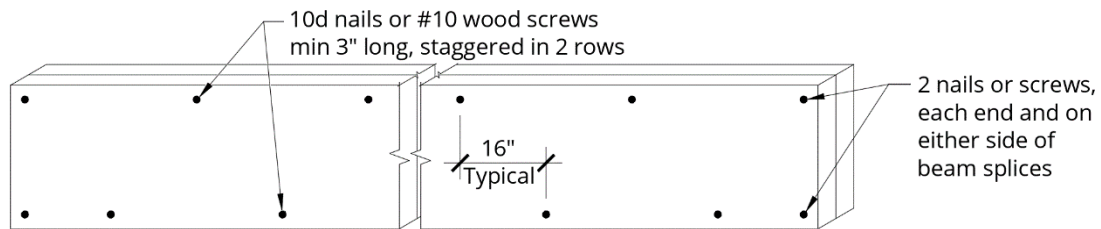

FIGURE 7 - BUILT- UP BEAM ASSEMBLY
- The plies of a beam shall be fastened together in accordance with Figure 7. Split beams are prohibited.